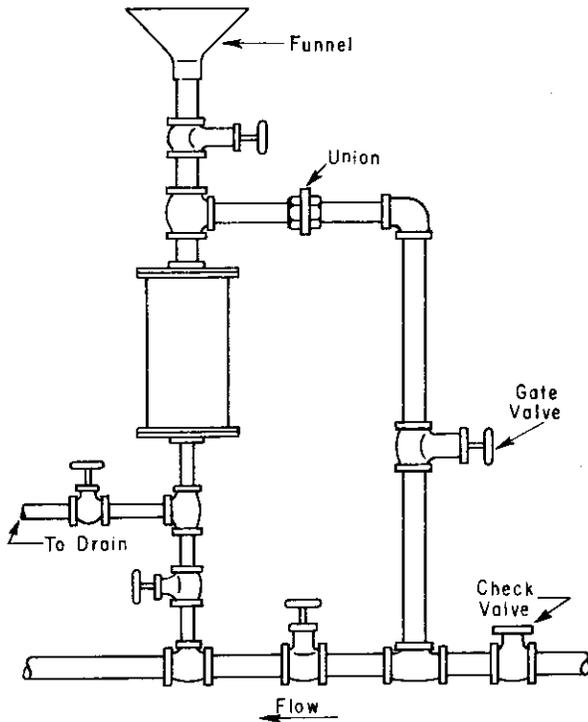

Fig. 1 - Bypass Feeder
7.02 Bypass feeders can be used for adding chemicals to closed systems. In this case the chemicals are added manually and in one shot. Bypass feeders usually are not used on open systems due to the lack of good control. Fig. 1 shows one type of bypass feeder.